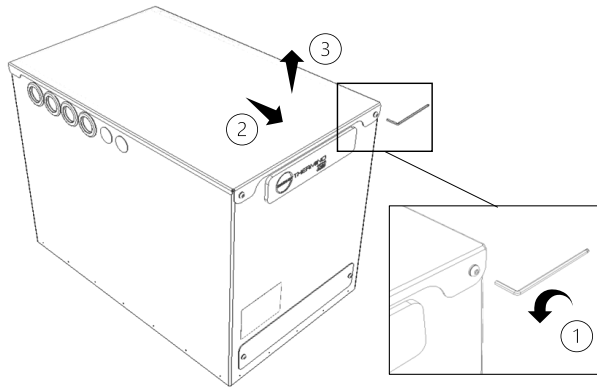

Figure 6 - Lid Removal of Thermino Heat Battery
- Remove lid. The lid is secured by 2 x M5 (8/32") head cap screws at the front and two locating pins at the back (Figure 6):
- (1) Remove 2 x M5 (8/32") button head cap screws using 3mm hex head and set aside.
- (2) Slide the lid forward, (3) then lift the lid up and set aside.